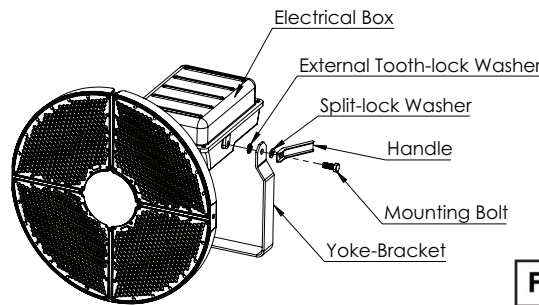
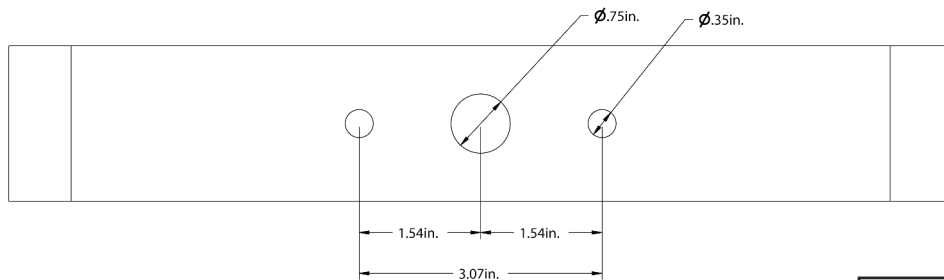

Fig. 5
Fig. 6
- 2.) Secure the yoke mount to the mounting surface with nuts and bolts using handle provided (See **Fig. 5**). Refer to **Fig. 6** for mounting hole dimensions on the yoke mount.